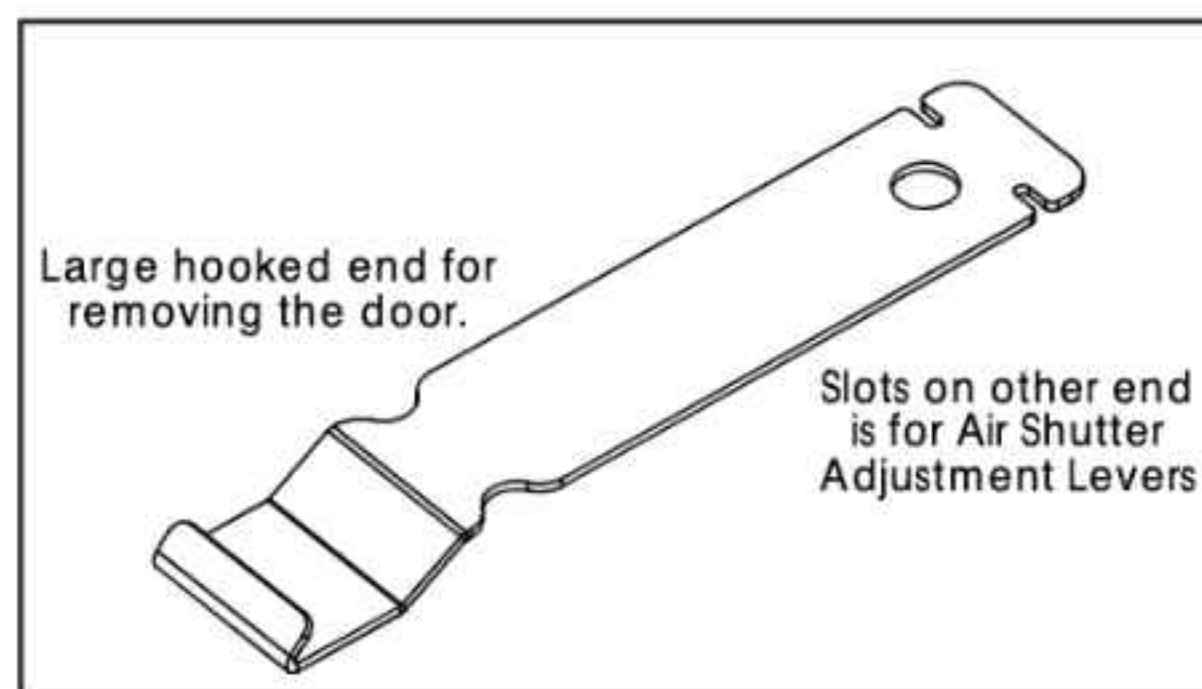
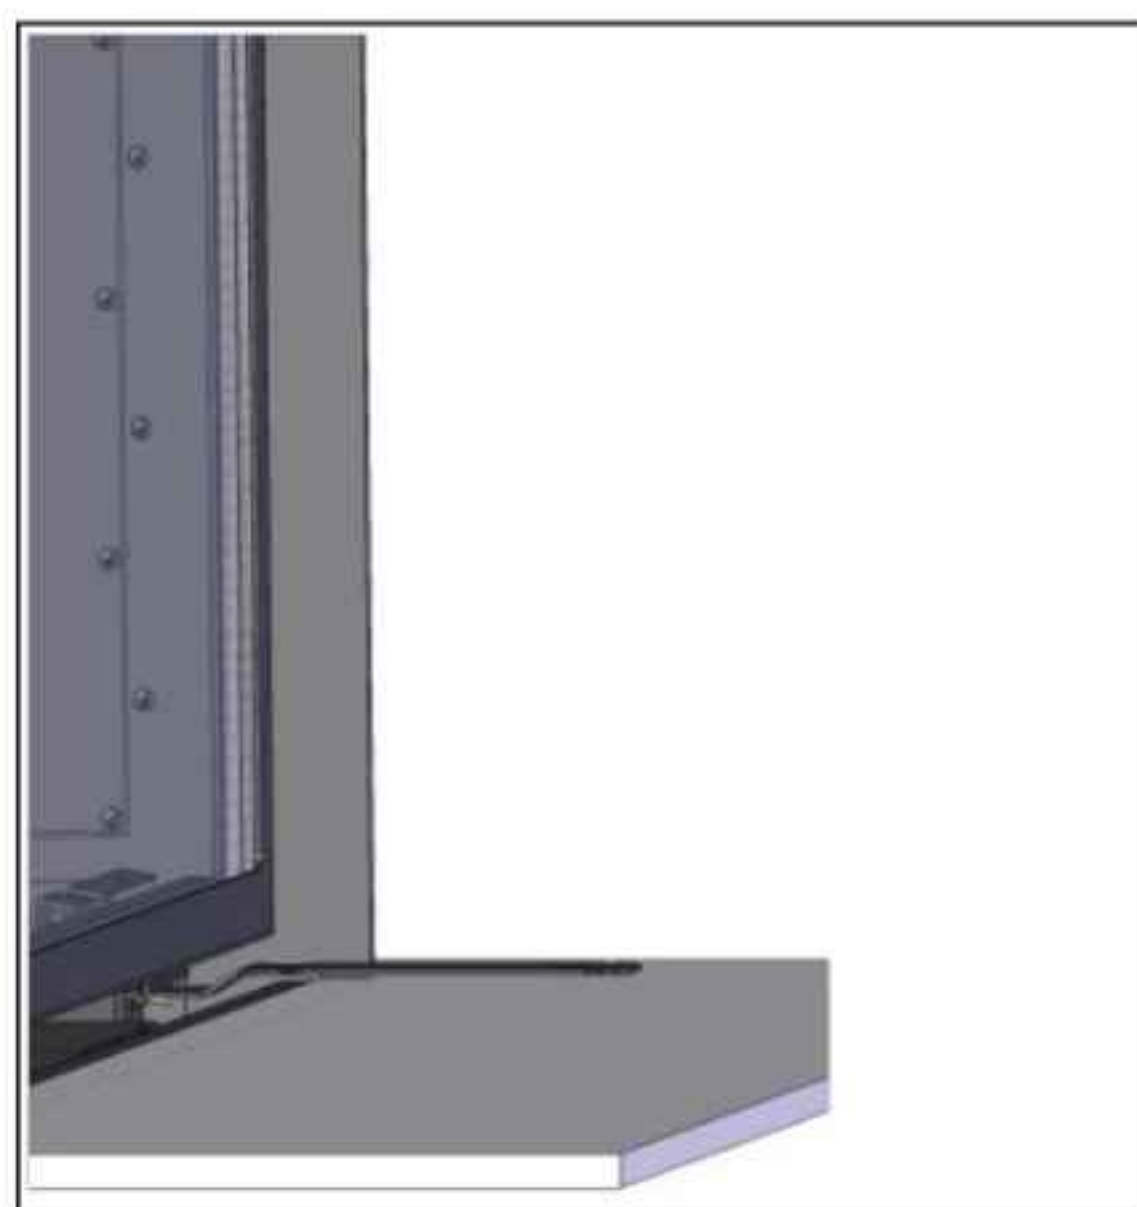

Figure 45: Door Latch /Air Adjustment Tool.
Figure 47: Door Latch Tool in Place.
- 1) The fireplace door hangs on two (2) hooks on the top of the firebox. The two (2) door latches at the bottom of the firebox hook over the tabs on the bottom of the door frame.
- 2) Lower the door latch tool underneath the door frame. Catch the lower door latch with the door latch tool (see Figure 45) and pull it out slightly, then down. Once the lower door latch clears the tab on the bottom of the door frame, release it inwards and then remove the door latch tool. Refer to Figures 47 & 48.